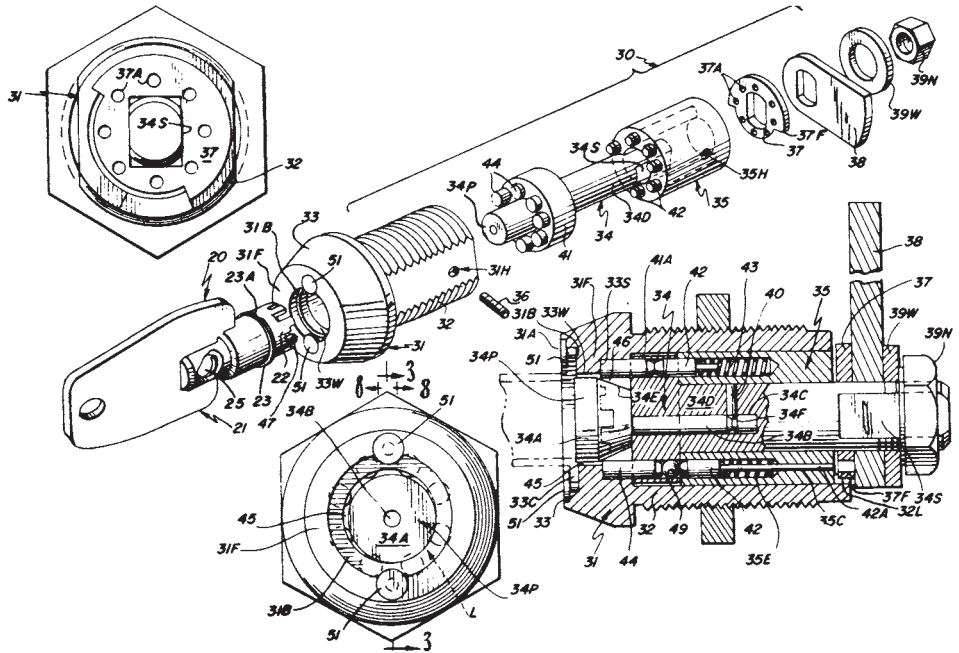

Figure 7.26 An “Ace” Tubular Key Lock.
The tubular key lock has become standard on vending machines. The arrangement of the pin tumblers increases security and requires a different type of key—one that is tubular. A typical tubular key lock and key is shown in Fig. 7.26. The cam works directly off the end of the plug.
4. Install the pins. The flat ends of the core pins are toward the key (Fig. 7.26). This pattern must be followed: